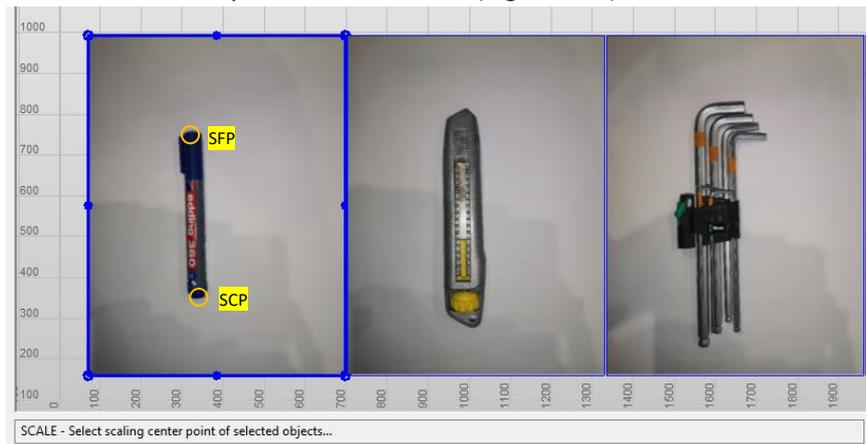

Figure 413
- c. Next NestKing requires a scaling center point **SCP** . Zoom in and select one of the bottom pixels of the marker (Figure 413).
- d. For the scaling fix point **SFP**  select one of the top pixels of the marker pen (Figure 413).